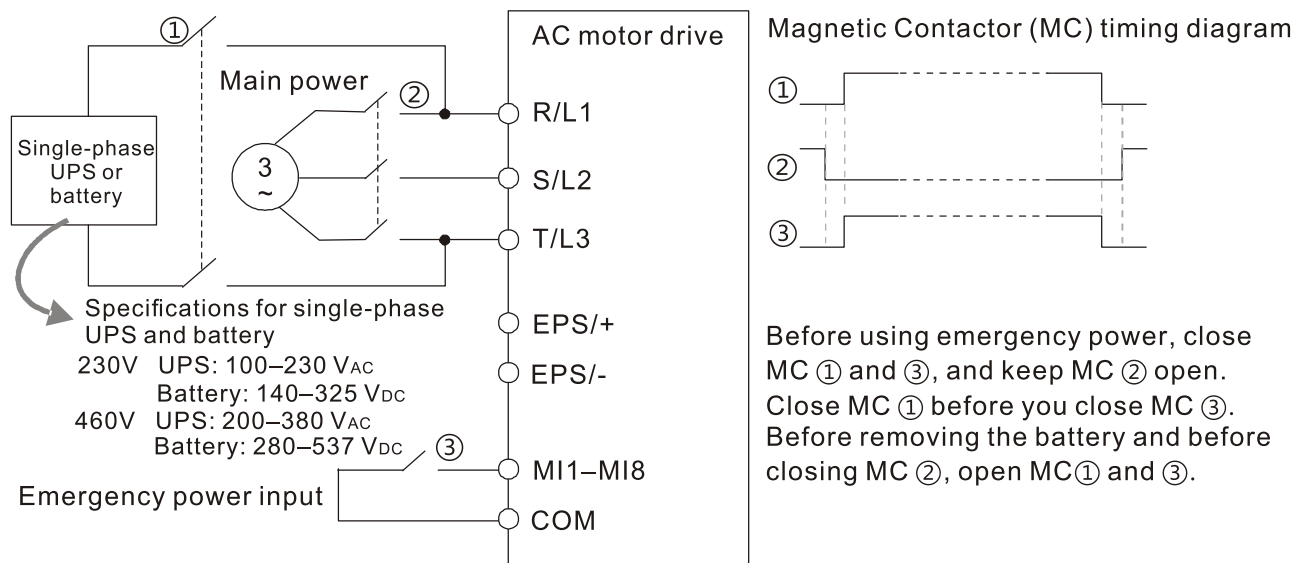
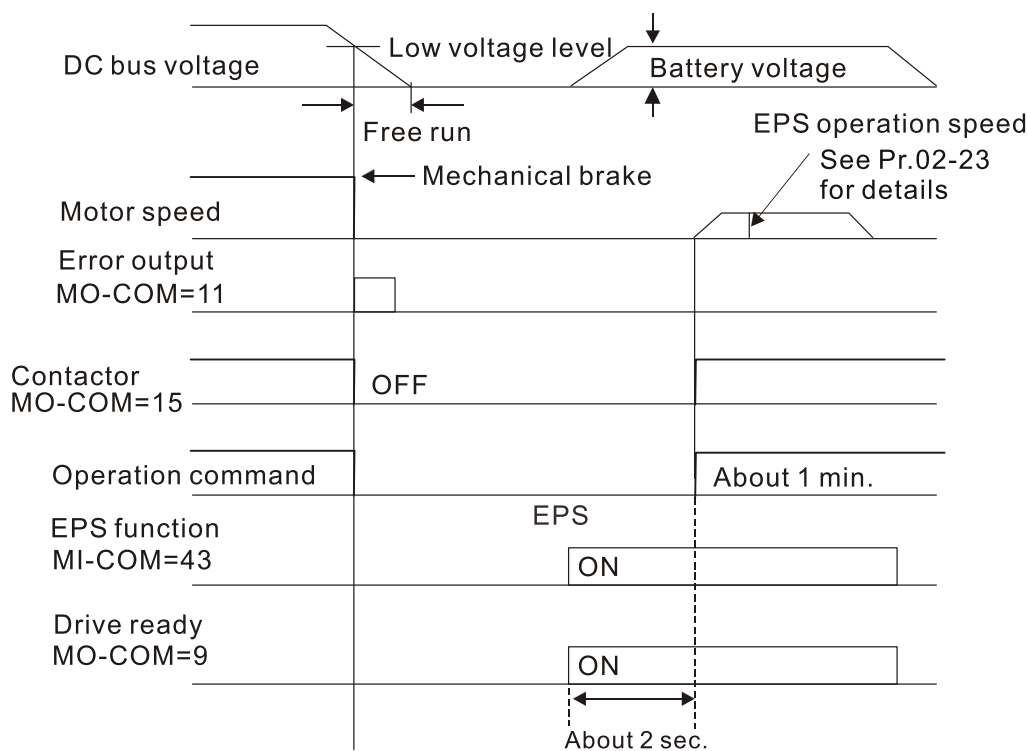

Figure 4-5
Figure 4-7
**NOTE:** See Figure 4-5 to Figure 4-7 for Emergency Power Supply (EPS) system wiring diagrams.